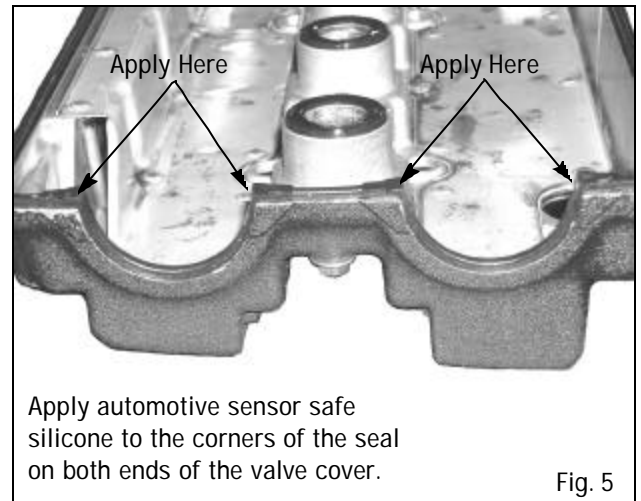
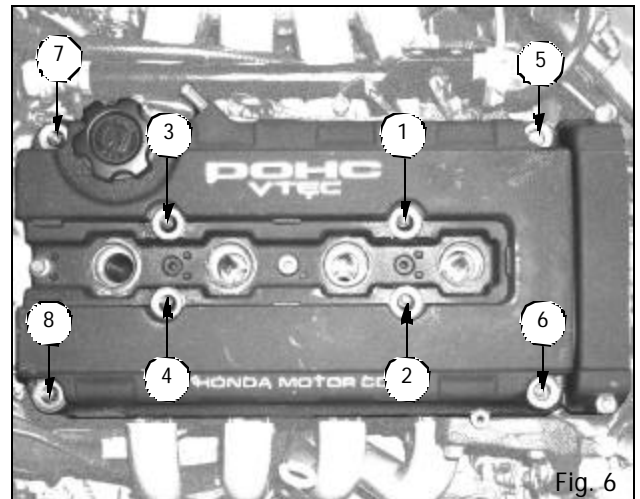

Fig. 5
Fig. 6
23. Thoroughly clean the valve cover mating surface, being careful not to get any old silicone or dirt into the engine. Clean off the rubber cap near the exhaust cam, put a thin coat of automotive sensor safe silicone around it and install it. Clean the groove in the valve cover and press the valve cover gasket into the groove in the valve cover. Apply a bit of automotive sensor safe silicone at the corners of the gasket that go around the camshafts (See Fig. 5). Set the valve cover onto the cylinder head and press down lightly to make sure the gasket is seated. Install the four nuts and washers that go under the plug wire cover and the four cap nuts and washers. Tighten nuts to 7 ft/lbs (See Fig. 6 for torque sequence).